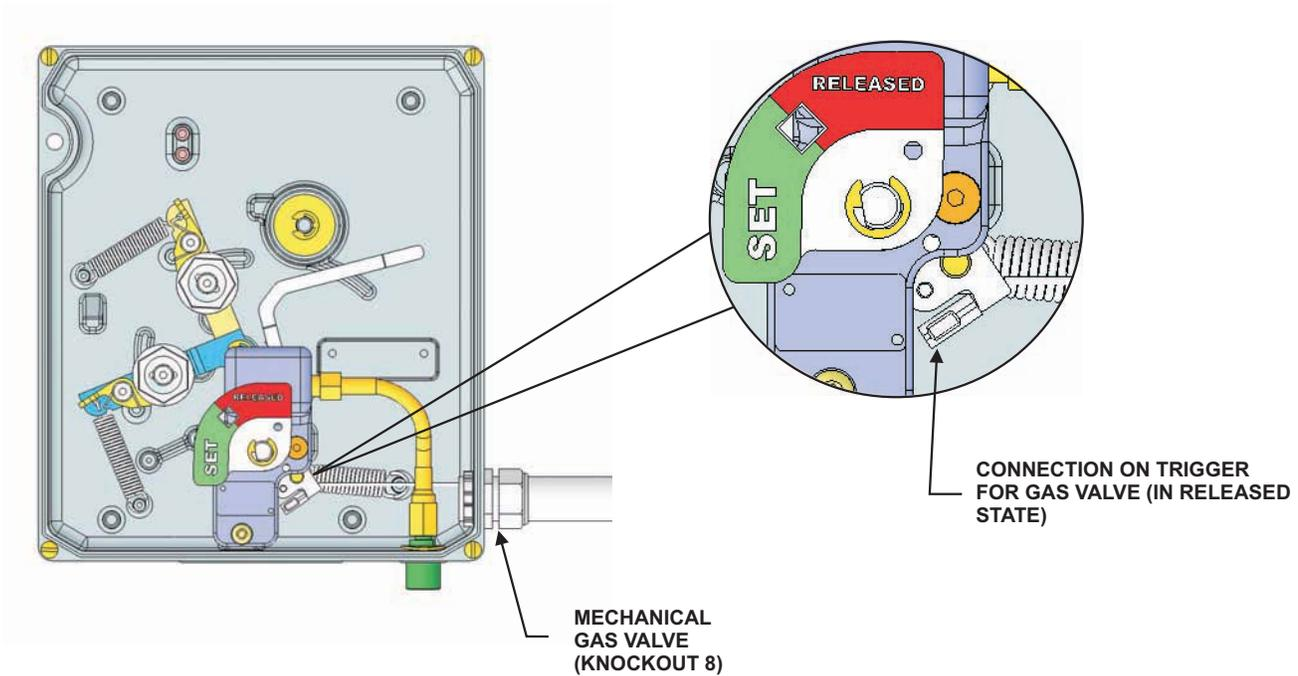

Figure 4-44. Cabling Gas Valve (Cam/Flag 'in Released' State)
4. Pull the cable back through so the crimp rests at the trigger (see Figure 4-44).